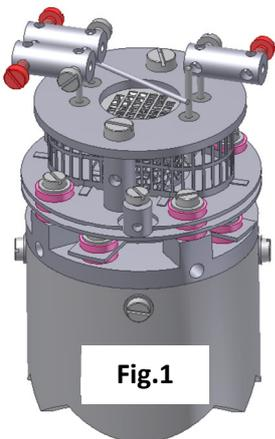

Fig.1
3. Loosen the three M2x4 screws highlighted in red that secure the filament connecting wires, see Fig.1.